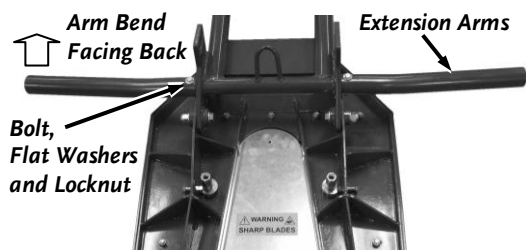

Figure 15
15. Attach the extension arms to the Chassis with a 1/4-20 X 2-1/4" Bolt, two 1/4" Washers and a 1/4-20 Locknut for each arm (Figure 15). Tighten with two 7/16" Wrenches.